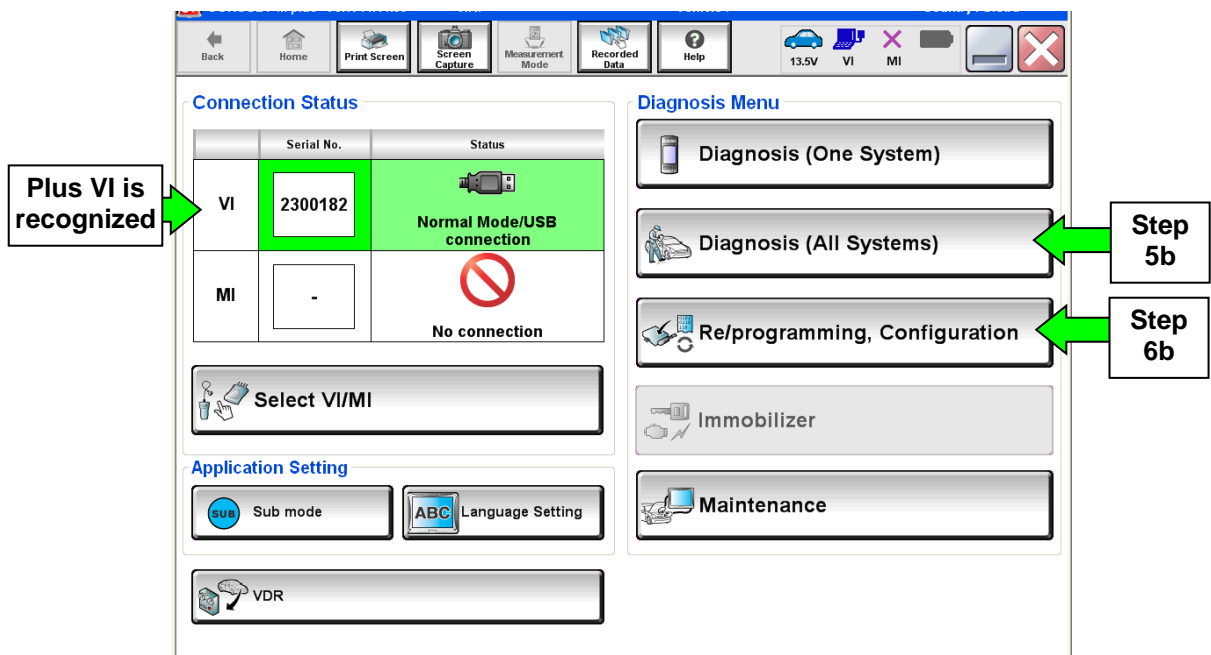

Figure 1
a. Select the **Home** button, and then **YES** to return to the screen shown in Figure 1.